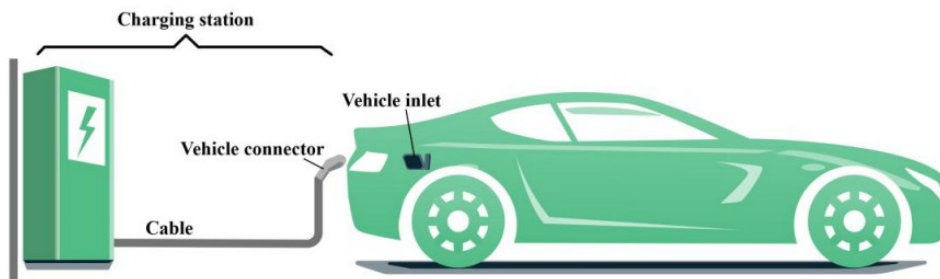

Fig. 3-1 Schematic diagram of CASE C connection
- According to **IEC 61851-1(3.1.12)**, the M3P U-series product is an EVSE that conforms to the CASE C connection (shown as Fig. 3-1).